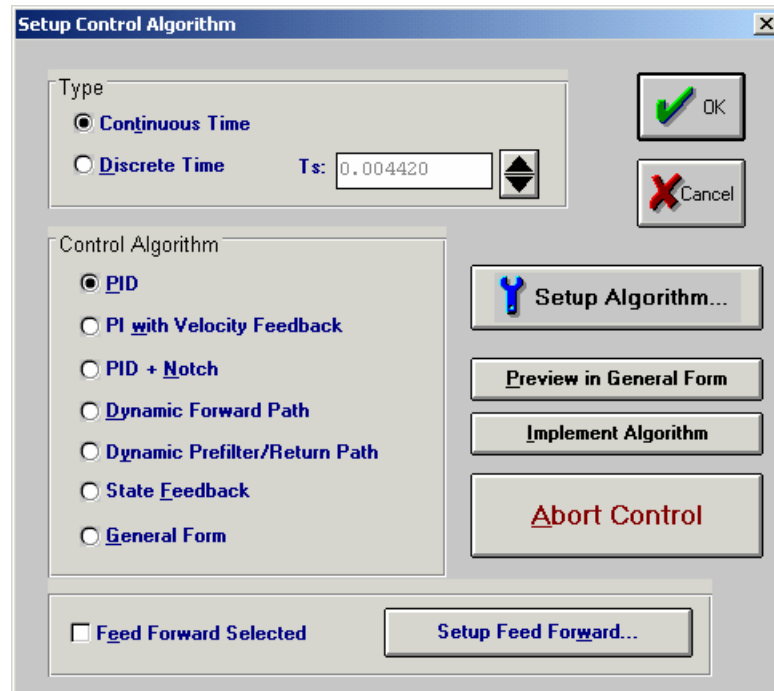

Figure 4: Setup Control Algorithm Window
1. Select **Setup - Control Algorithm** from the main menu bar (see Figure 1) to specify the servo control algorithm. A window similar to Figure 4 will open.
- In the Setup Control Algorithm (see Figure 4) make sure to click the **Implement Algorithm** button to actually implement the control algorithm.
- If the implementation of the control algorithm does not result in excessive movement of vibrations of the mechanical system click the **OK** button to close the Setup Control Algorithm (see Figure 4) window. You should see the control is being active by the **Control Loop Status: CLOSED** in the main window of ECP (see Figure 1).